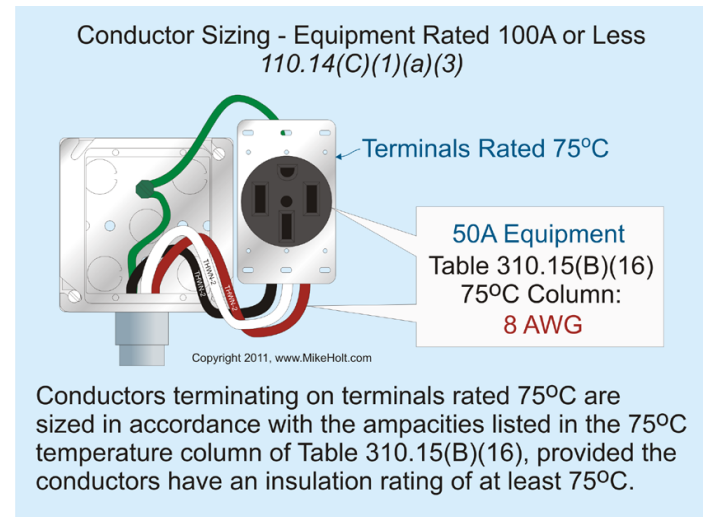

Figure 110-15
- (1) Conductors must be sized using the 60°C temperature column of Table 310.15(B)(16).
- (3) Conductors terminating on terminals rated 75°C are sized in accordance with the ampacities listed in the 75°C temperature column of Table 310.15(B)(16). **Figure 110-15**